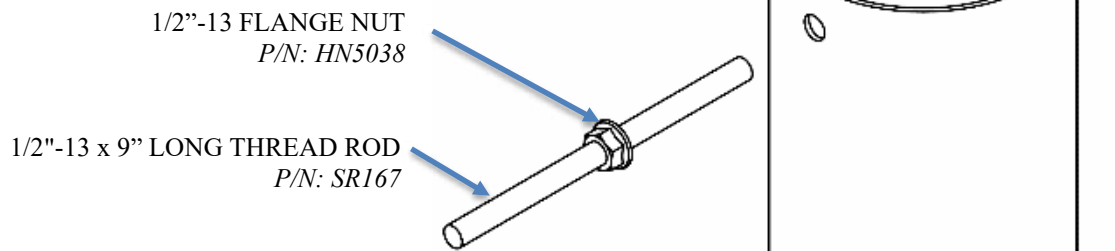

FIGURE: 9
3. Install the 1/2" thread rod and flange nuts thru the sleeve (figure 9).